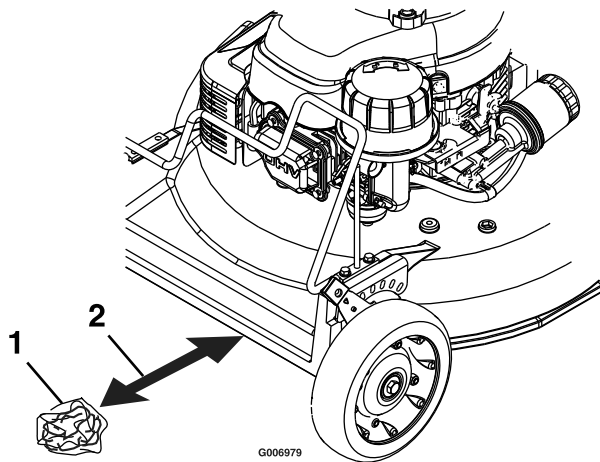

Figure 12
5. Take a half sheet of newspaper and crumple it into ball small enough to go under the deck (about 3 inches or 7.6 cm in diameter) as shown in Figure 12.